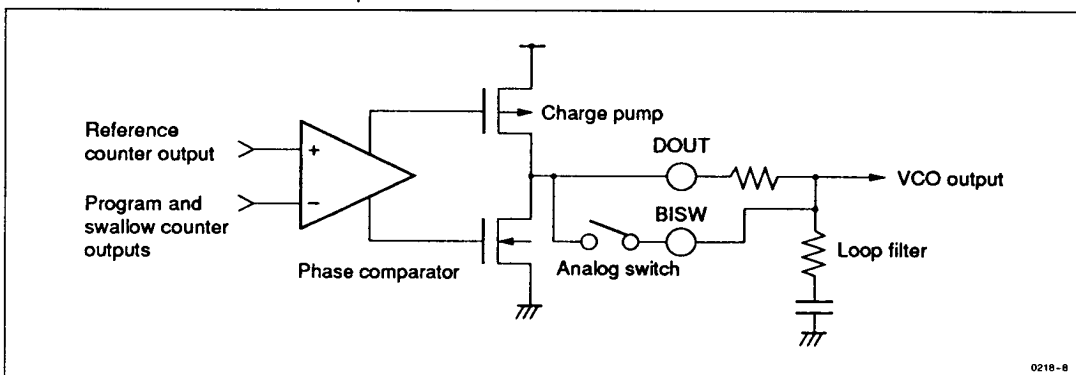

Figure 6. Analog Switch Usage Example
**Use of the BISW Pin:** The HD155001T provides a built-in analog switch for changing the loop filter time constants to shorten the lock-up time. By connecting the BISW pin to the loop filter capacitor, either directly or through an appropriate resistance, the charge pump output can charge the loop filter capacity rapidly. This shortens the lock-up time. (See Figure 6.)